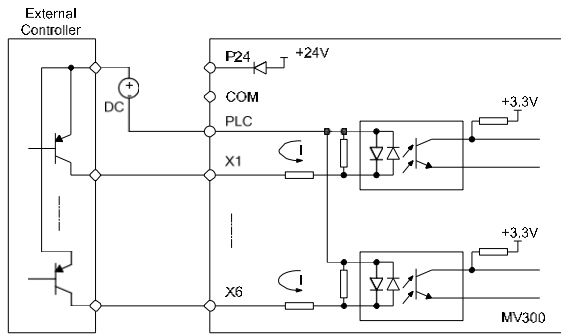

Fig. 3-16 The drain connecting mode when using the external power supply
4) The drain connecting mode when using the external power supply (**note:** be sure to remove the short circuit plate between the user terminal PLC and P24) is as shown in Fig. 3-16.